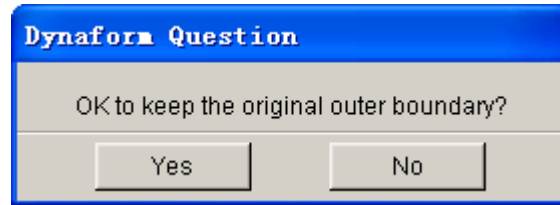

Figure 5.2.23 DYNAFORM Question dialog box
5. After the curve is defined or selected, select **EXIT**. The eta/DYNAFORM Question dialog box, as illustrated in Figure 5.2.23 appears.